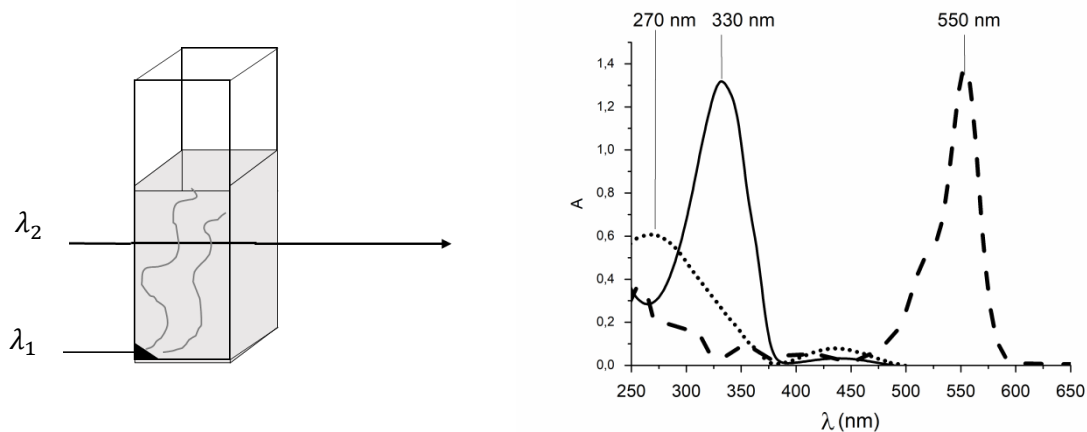

Fig. 6 – Left: experimental setup used to monitor the release of the dye
- The azobenzene-silica powder that is loaded with a dye is placed in the corner of a cuvette (**Fig. 6**) so that this powder cannot move into solution.